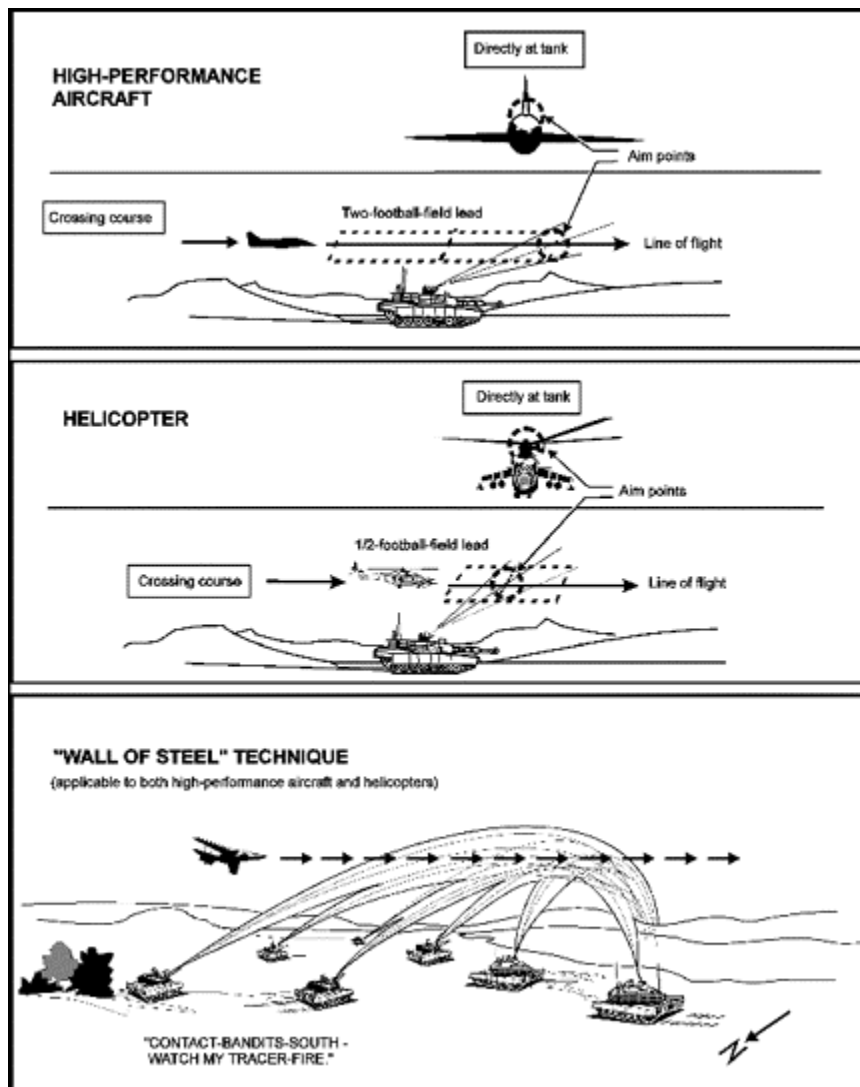

Figure 6-4. Machine gun aim points against helicopters and high-performance aircraft.
- **Step 1 - Initiate fires.** The primary intent is to force aircraft to take self-defense measures that alter their attack profile and reduce their effectiveness. Leaders may use a tracer burst to designate an aim point for machine gun antiaircraft fires (see Figure 6-4). Volume is the key to effectiveness; tanks and BFVs throw up a "wall of steel" through which aircraft must fly. Effective in company team air defense employment are the tank main gun and TOW and Javelin missiles against hovering attack helicopters, the tank main gun and BFV 25-mm cannon against moving helicopters, and the tank main gun MPAT